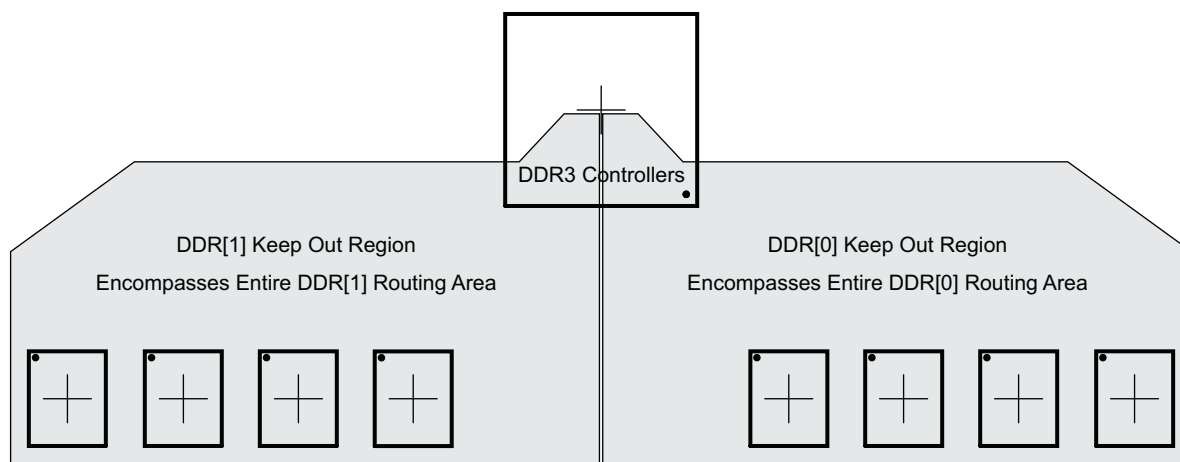

Figure 8-59. DDR3 Keepout Region
(2) Measurements from center of MPU to center of DDR3 device.
(3) Minimizing X1 and Y improves timing margins.
(4) w is defined as the signal trace width.
(5) Non-DDR3 signals allowed within DDR3 keepout region provided they are separated from DDR3 routing layers by a ground plane.
(6) Note that DDR3 signals from one DDR3 controller are considered *non-DDR3* to the other controller. In other words, keep the two DDR3 interfaces separated by this specification.
The region of the PCB used for DDR3 circuitry must be isolated from other signals. The DDR3 keepout region is defined for this purpose and is shown in Figure 8-59. The size of this region varies with the placement and DDR routing. Additional clearances required for the keepout region are shown in Table 8-67. Non-DDR3 signals should not be routed on the DDR signal layers within the DDR3 keepout region. Non-DDR3 signals may be routed in the region, provided they are routed on layers separated from the DDR signal layers by a ground layer. No breaks should be allowed in the reference ground layers in this region. In addition, the 1.5-V DDR3 power plane should cover the entire keepout region. Also note that the two DDR3 controller's signals should be separated from each other by the specification in Table 8-67, item 5.